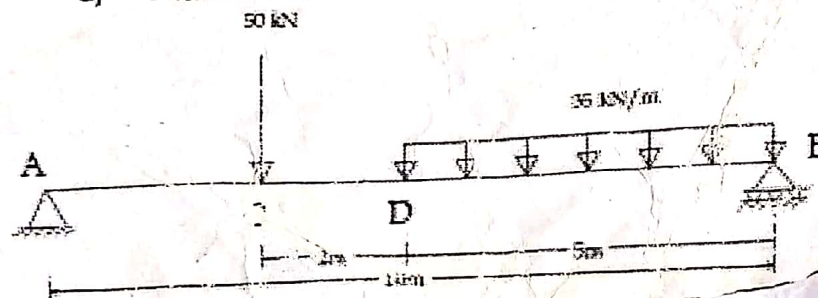

Fig. 1
(b) For portion of A and B of the overhanging beam showing in Figure 1.
1. For the beam shown in Fig. 1 below,